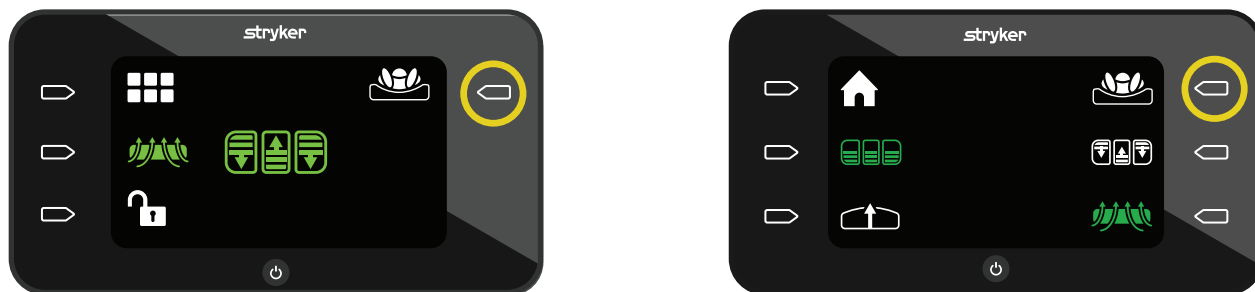

Figure 34 – AST mode off
1. To start the AST mode, press the **Action** button next to the **AST mode** icon (Figure 34).